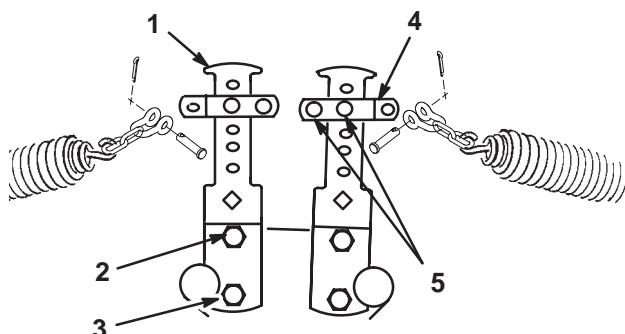

Figure 16
- Secure the other end of the spring to the appropriate hole (see below) on the front and rear counterbalance arms (Fig. 16 & 17) with the spring shackle with the chain, clevis, clevis pin, and cotter pin.
- Secure the other end of the spring to the second hole from the top with the spring shackle with the chain, clevis, clevis pin, and cotter pin (Fig. 16).
- Secure the bottom of the counterbalance arm to the frame with the capscrew and nut previously removed. Tighten the top capscrew (Fig. 16).